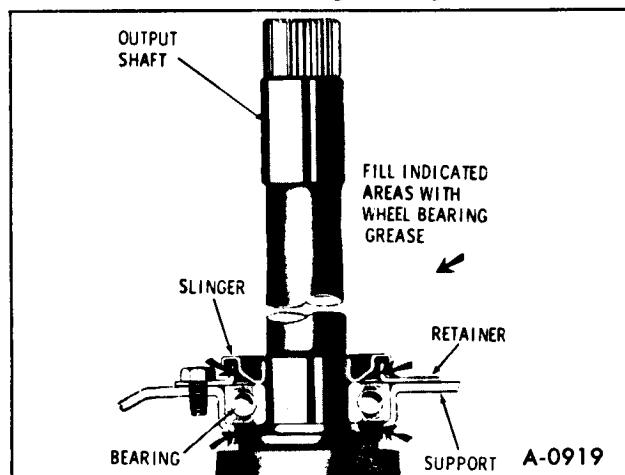

Figure 7—R.H. Output Shaft Assembly
1. If output shaft bearing was removed, assemble parts as shown in Figure 7.